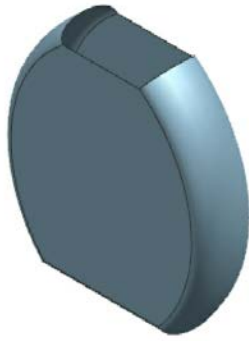

Figure 11-48 The model after mirroring the bridge surface
- e. Mirror the bridge surface about the YC-ZC plane, refer to Figure 11-48.
1. After creating the bridge surface, mirror it about the YC-ZC plane. Turn off the display of the plane. The model after creating the mirror feature is shown in Figure 11-48.